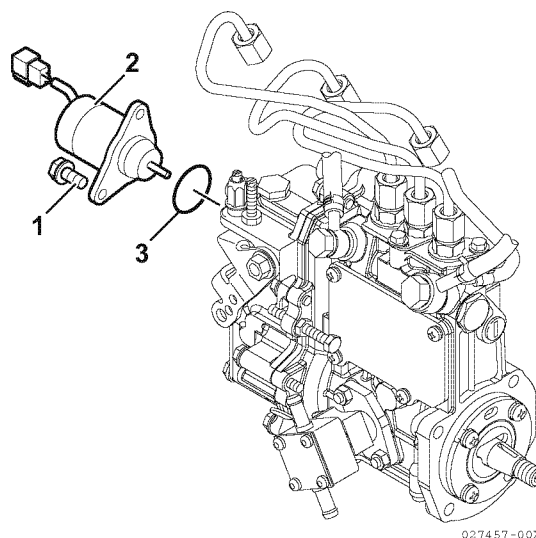

Figure 7-18
3. Remove two screws (**Figure 7-18, (1)**).
4. Remove the stop solenoid (**Figure 7-18, (2)**) and O-ring (**Figure 7-18, (3)**).